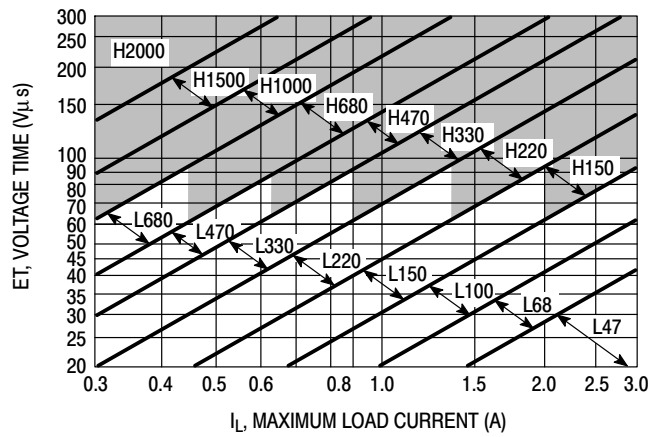

Figure 22. LM2576-ADJ
4. Inductor Selection (L1) A. Use the following formula to calculate the inductor Volt x microsecond [V x μs] constant: $E \times T = \left(V_{in} - V_{out} \right) \frac{V_{out}}{V_{in}} \times \frac{10^6}{F[\text{Hz}]} \text{ [V x } \mu\text{s]}$ B. Match the calculated E x T value with the corresponding number on the vertical axis of the Inductor Value Selection Guide shown in Figure 22. This E x T constant is a measure of the energy handling capability of an inductor and is dependent upon the type of core, the core area, the number of turns, and the duty cycle. C. Next step is to identify the inductance region intersected by the E x T value and the maximum load current value on the horizontal axis shown in Figure 25. D. From the inductor code, identify the inductor value. Then select an appropriate inductor from Table 2. The inductor chosen must be rated for a switching frequency of 52 kHz and for a current rating of $1.15 \times I_{Load}$. The inductor current rating can also be determined by calculating the inductor peak current: $I_{p(\text{max})} = I_{Load(\text{max})} + \frac{(V_{in} - V_{out}) t_{on}}{2L}$ where t_{on} is the "on" time of the power switch and $t_{on} = \frac{V_{out}}{V_{in}} \times \frac{1.0}{f_{osc}}$ For additional information about the inductor, see the inductor section in the "External Components" section of this data sheet.	4. Inductor Selection (L1) A. Calculate E x T [V x μs] constant: $E \times T = (25 - 8.0) \times \frac{8.0}{25} \times \frac{1000}{52} = 80 \text{ [V x } \mu\text{s]}$ B. E x T = 80 [V x μs] C. $I_{Load(\text{max})} = 2.5 \text{ A}$ Inductance Region = H150 D. Proper inductor value = 150 μH Choose the inductor from Table 2.